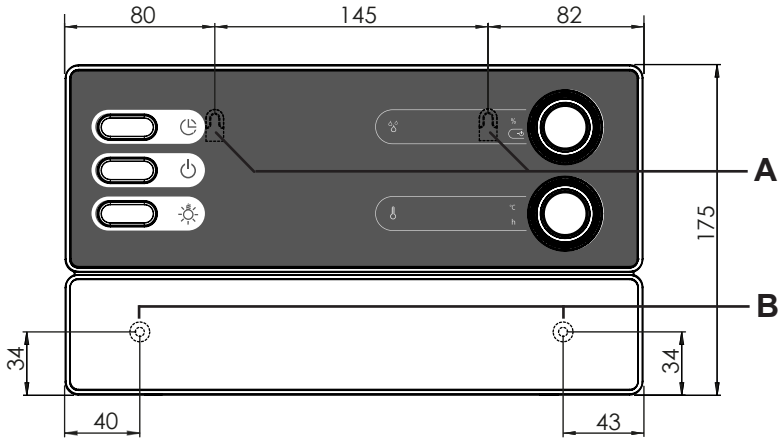

Fig.1 Position of the attachment device and the installation holes (dimensions in mm)
1. Screw two cross-head screws (16 mm) into the wall of the sauna at a height of approx. 1.70 m and leaving a protruding length of 7 mm. The two screws must be placed at a distance of 145 mm from each other (see **Fig.1**).
3. Fasten the sauna control unit onto the cross-head screws using attachment device **A** as an aid (see **Fig.1**).
4. Screw two cross-head screws (16 mm) into the lower fastening holes **B** (see **Fig.1**).